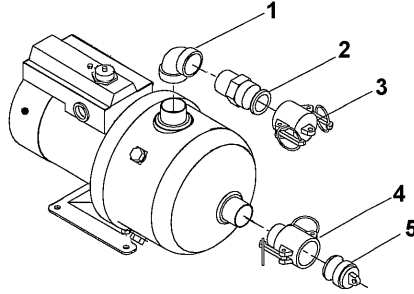

Figure 2. Distribution Service Pump.
1. Remove male camlock (2) and dust cap (3). See Figure 2.
2. Remove elbow (1) from the pump.
3. Unthread female camlock (4) and dust plug (5).
1. Refer to Figure 2 for this procedure section.
2. Install elbow (1) on the pump.
3. Install male camlock (2) and dust cap (3).
4. Install female camlock (4) and dust cap (5).